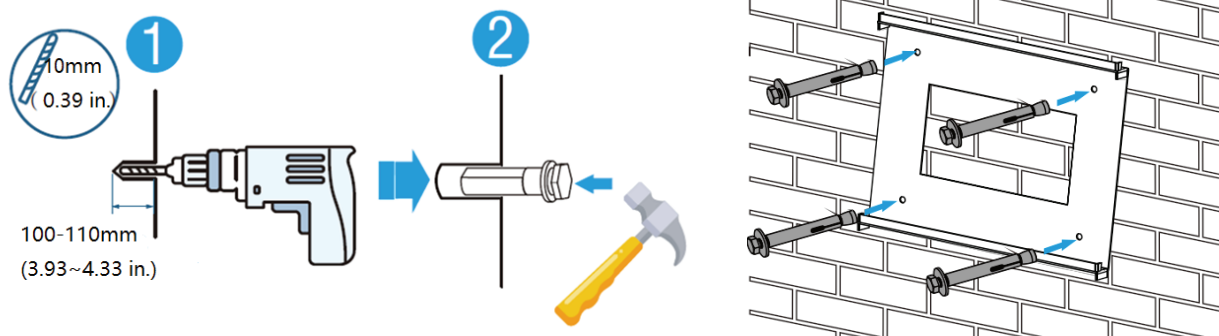

Figure 5-2
b) Choose the recommended drill head (as shown in Figure 5-2) to drill 4 holes on the wall, 100mm-110mm deep.
c) Use a proper hammer to fix the hanging plate to the wall, fit the expansion bolt into the holes, as shown in Figure 5-2.
b) Stand the battery on the side of the wall, mark the location of the fixing hole, Choose the recommend drill head (as shown in below picture) to drill 2 holes on the wall, 100-110mm deep, as shown in Figure 5-2 and Figure 5-5.
as shown in Figure 5-2.